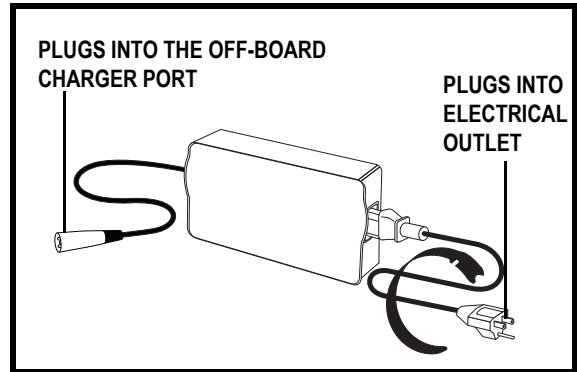

Figure 8. Off-Board Charger
4. Plug the 3-pin charger power cord into the off-board charger port. See figures 8 and 9.